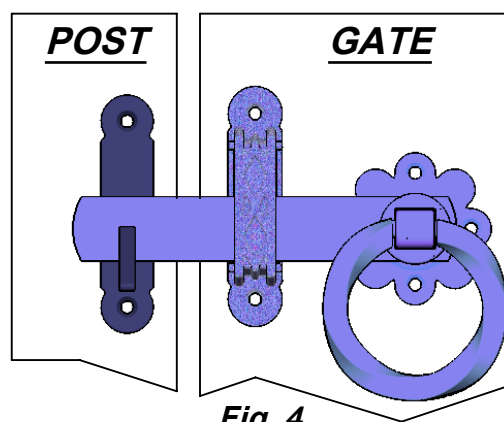

Fig. 4
- 6) POSITION THE CATCH ON THE POST WITH THE LATCH BAR HORIZONTAL AND EVEN WITH THE CATCH (Fig. 4). MOUNT THE CATCH TO THE POST USING THE SUPPLIED MOUNTING SCREWS.